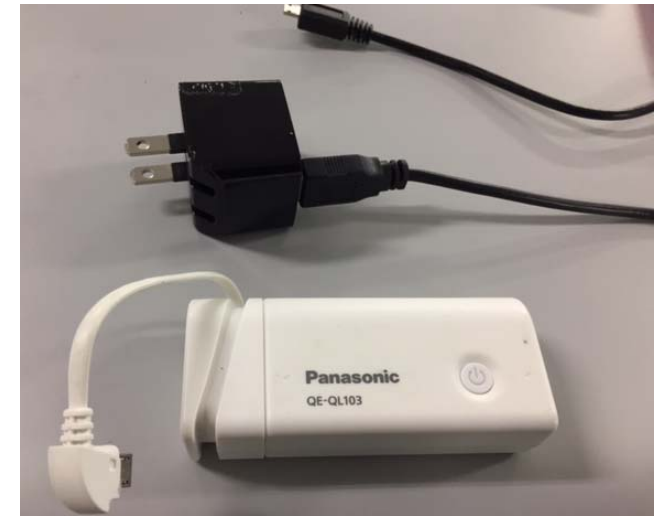

Fig.8 Examples of Power supply
- (1) Mobile battery or AC adapter for micro USB in the Fig.8 are convenient.